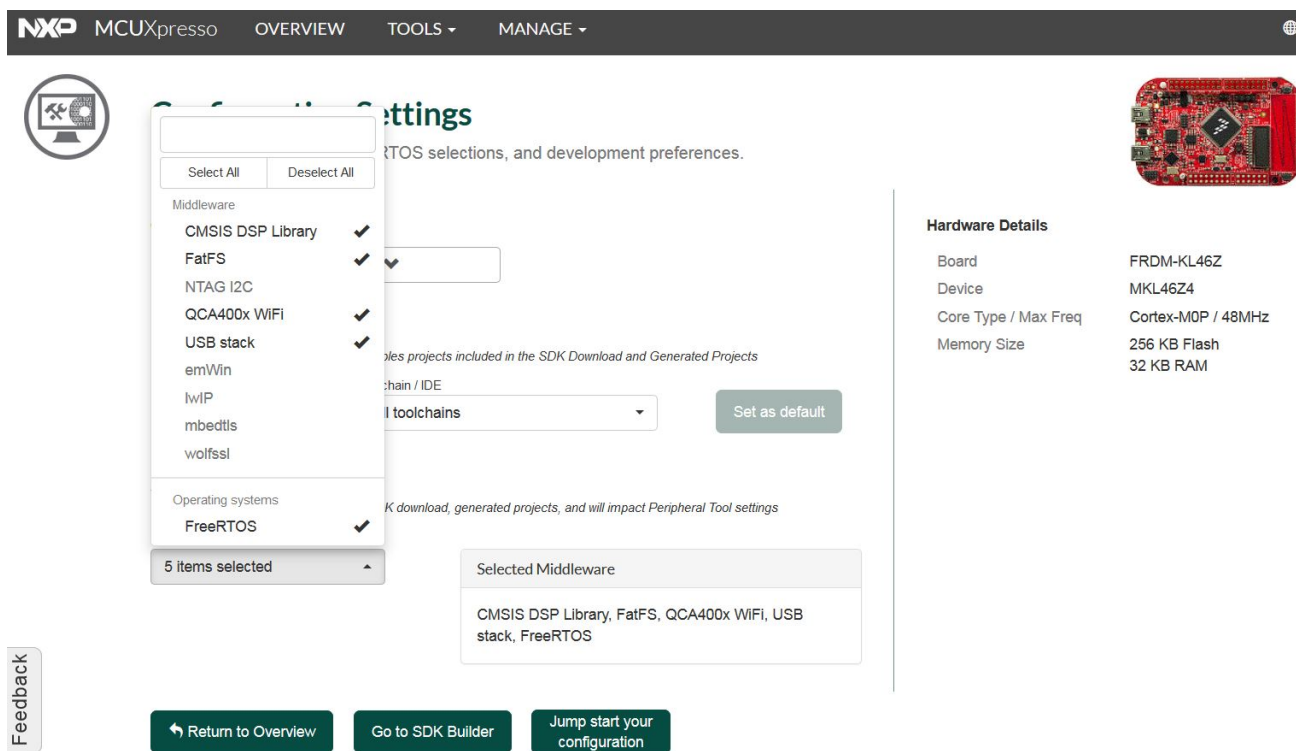

Figure 5. FRDM-KL46Z SDK download
1. FRDM-KL46 is the reference MCUXpresso SDK, so if it is not available locally, download the FRDM-KL46Z SDK. Select FreeRTOS then QCA400x Wi-Fi, as shown in Figure 5 and Figure 6.